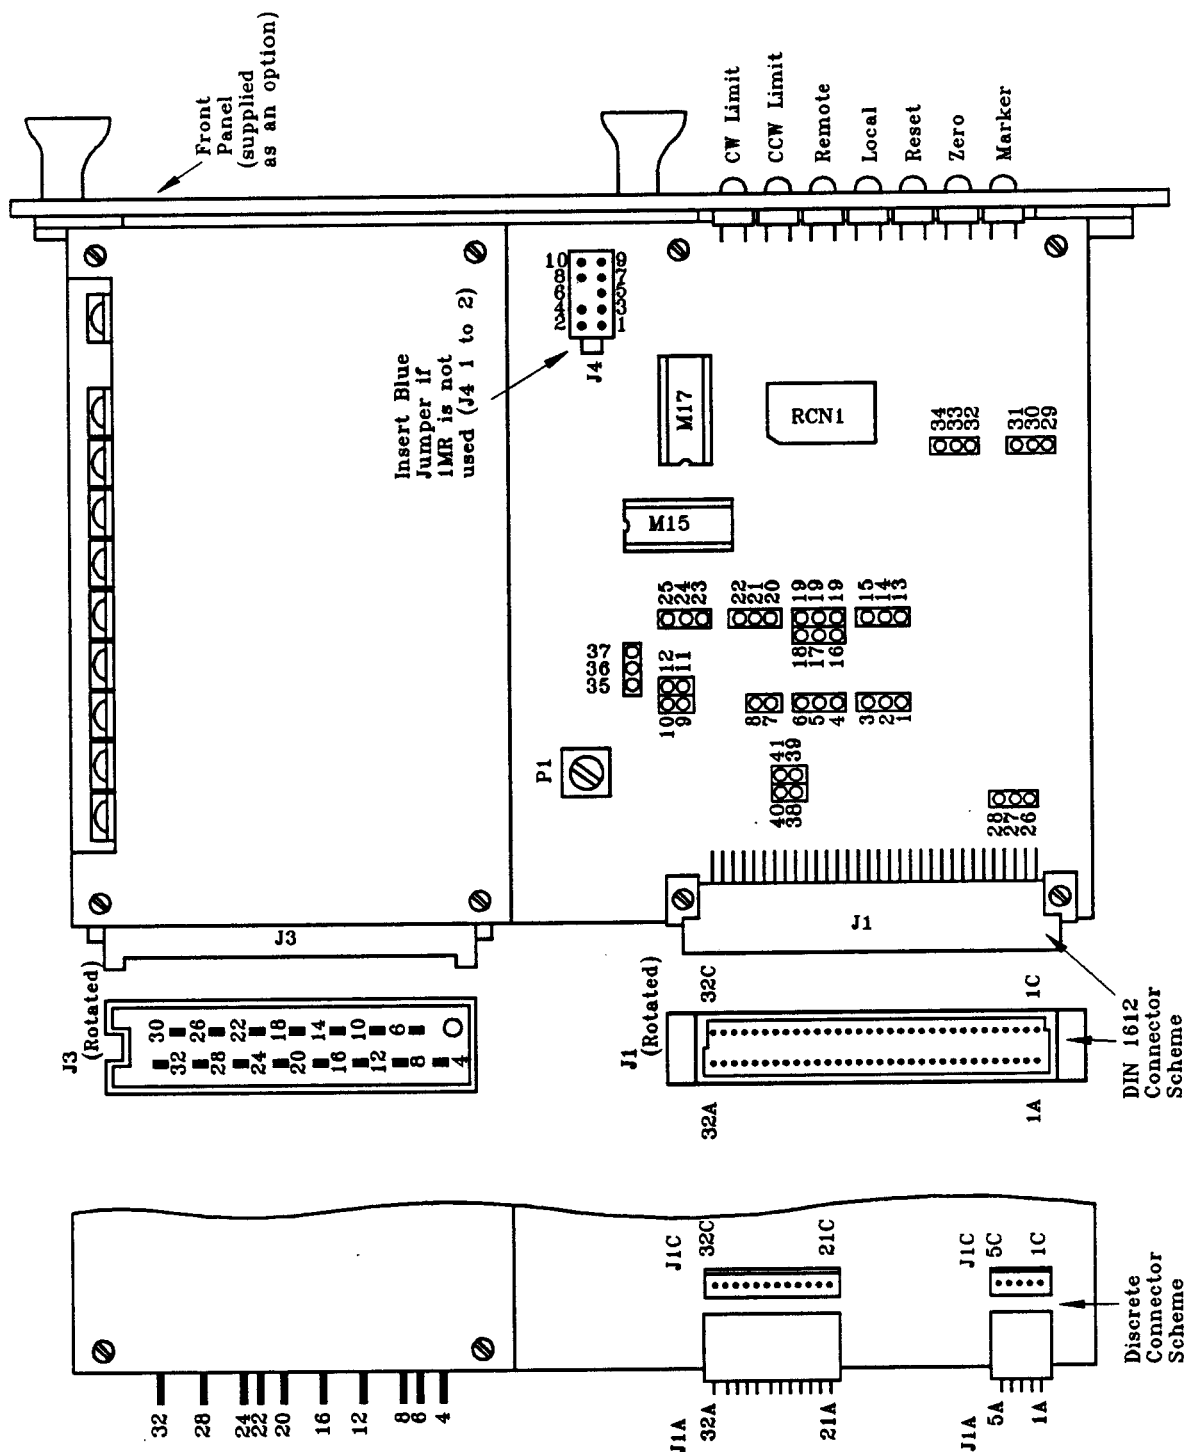

Figure 3-2: Assembly Outline of DM4005/4003/4001/1501
For non-DIN 41612 interfacing, Aerotech can provide inexpensive terminating connectors for J1 and J3. Figure 3-2, *DM4005/4003/4001/1501 Outline*, shows a "discrete" connector scheme for the control (J1) and power (J3) connections. Aerotech can supply, upon request, a means of terminating wiring to J1 and J3 that requires no special "mother" board or elaborate ribbon cable interfaces. The discrete wire terminations for J2 are four (4) "locking" type header systems (J1A and J1C, supplied with mates) for attaching #28 through #22 gauge wire. Alternately, power connections to J3 can be supplied as "quick connect" tabs (.250 style) which attach directly to the DM4005/4003/4001/1501.
| | Programming jumper between pin 1 and 2 of J4 on DM4005/4003/4001/1501 is not inserted | See figure 3-2 |